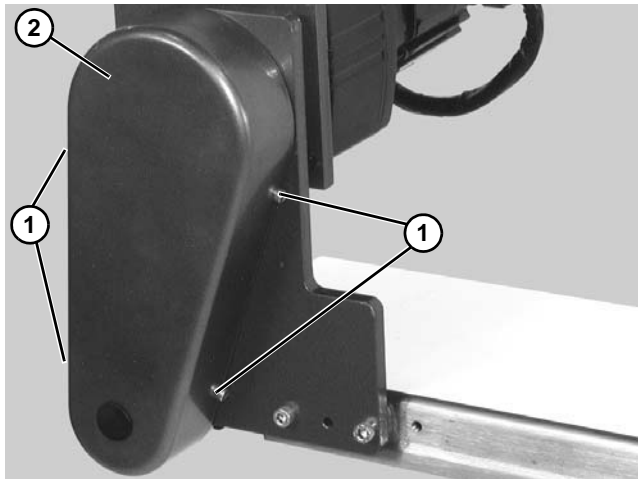

Figure 16
1. Remove four screws (**Figure 16, item 1**) and remove cover (**Figure 16, item 2**).
4. Install cover (**Figure 16, item 2**) with four screws (**Figure 16, item 1**). Tighten to 35 in-lb (4 N-m).